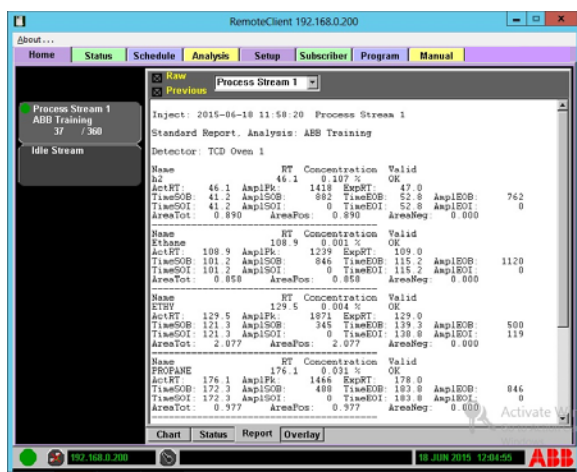

Fig. 6.6. Raw Data Report Format
2. The raw data report (see Figure 6.6) displays the actual value of software determined points on the chromatogram, in addition to the information displayed in the standard report format. The times shown are in seconds from the start of the method. The amplitudes are in 0.1 microvolt units. The Start of Baseline / End of Baseline amplitudes are relative to electrical zero. The other amplitudes are relative to the computed baseline. Areas are in millivolt-sec units.
5. View the data (see Figure 6.6).